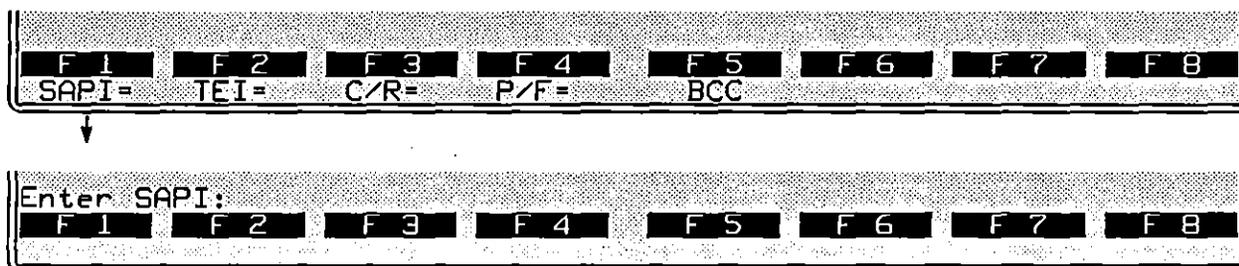

Figure 42-9 The hex value of the SAPI is entered as two alphanumeric.
6. *SAPI*. A SAPI condition may be added to all frame types. Press the softkey for SAPI=, shown in Figure 42-9. Then enter the 6-bit SAPI value as two hex digits in a range from 00 to 3F. (Do not use the **HEX** key.) The entry will appear as in this example:
To bypass the SAPI= selection (as well as the other options on the same rack of softkeys in Figure 42-9) press **CONF**.